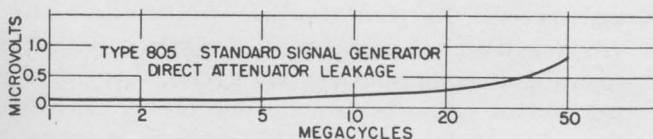

Figure 8. Direct attenuator leakage as a function of frequency. This is significant only on the lowest multiplier position.
3.15 Direct Leakage in Attenuator: Direct leakage, one source of which is capacitance across the attenuator from input to output, results in a fixed error which is effective only on the lowest multiplier step, and increases with frequency. This is shown in Fig. 8.